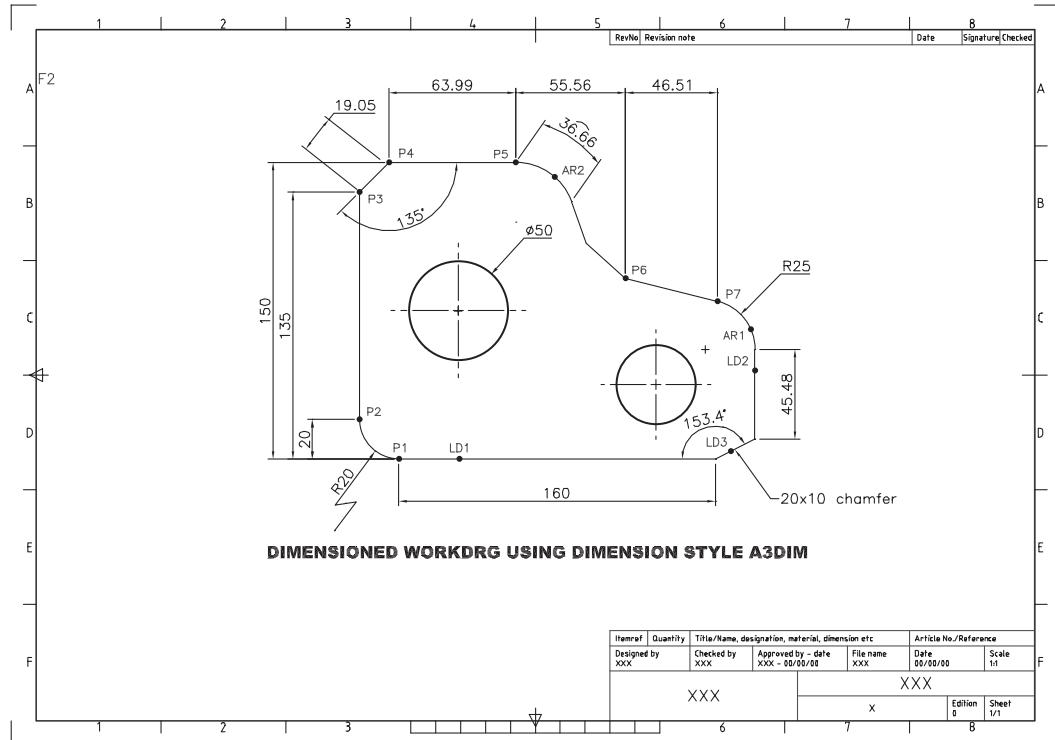

Figure 14.10 Dimensioned WORKDRG using the created A3DIM dimension style.
- 1 a) At this stage your drawing should resemble Figure 14.10